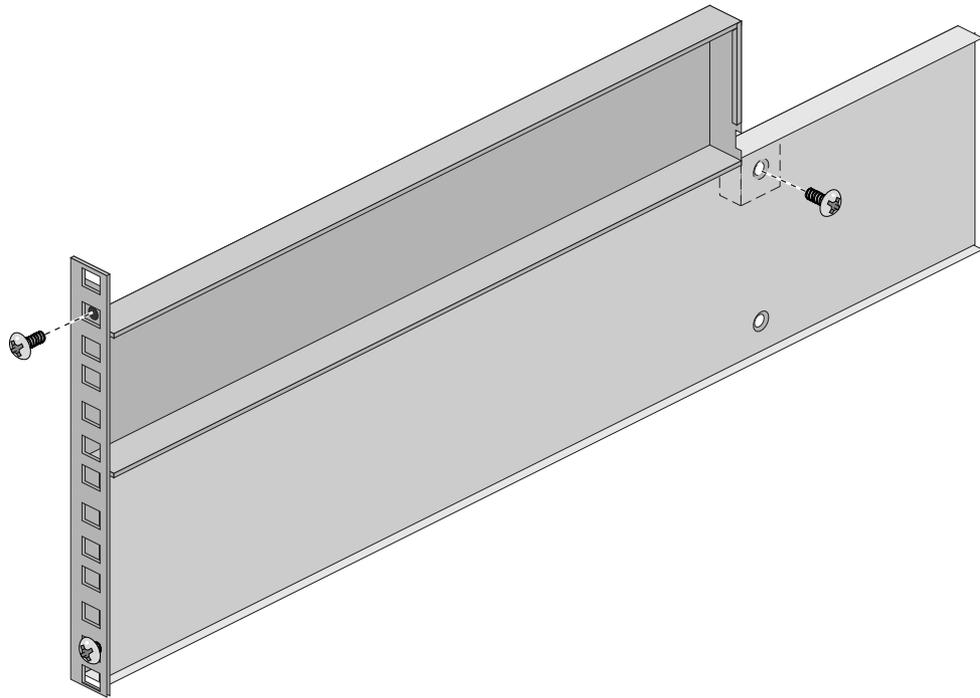

Figure 2-6 Air Duct Above Outer Rail
1. Place the left air duct above the left rail, see Figure 2-6 on page 18 for an example.